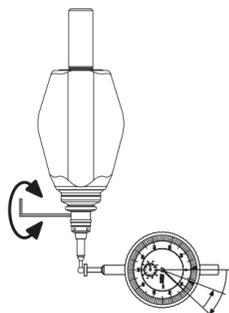

Fig. 3
---Turn spindle with 3D tester by 180°, and the dial gage shows the deviation of X axis (Fig. 3, as shown in the figure, the indicator reading is 0.12mm).